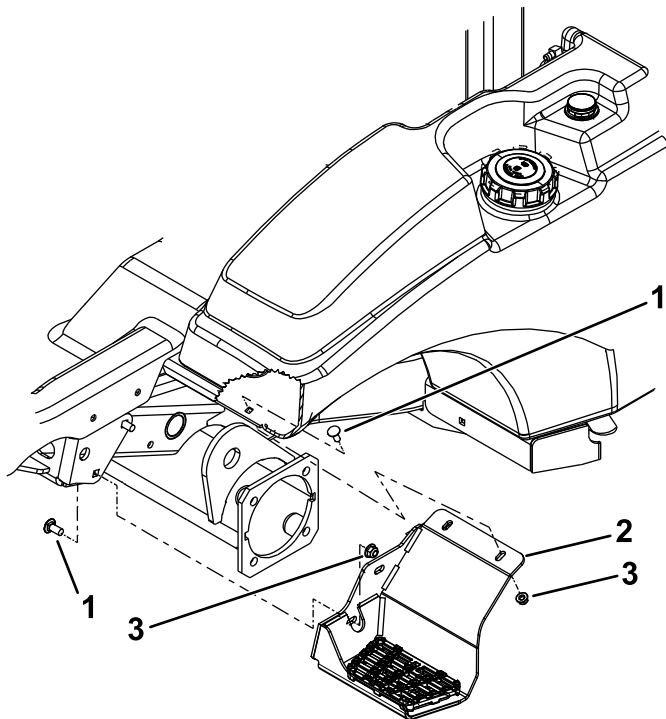

Figure 17
1. Remove the existing step on the side of the machine (Figure 17).